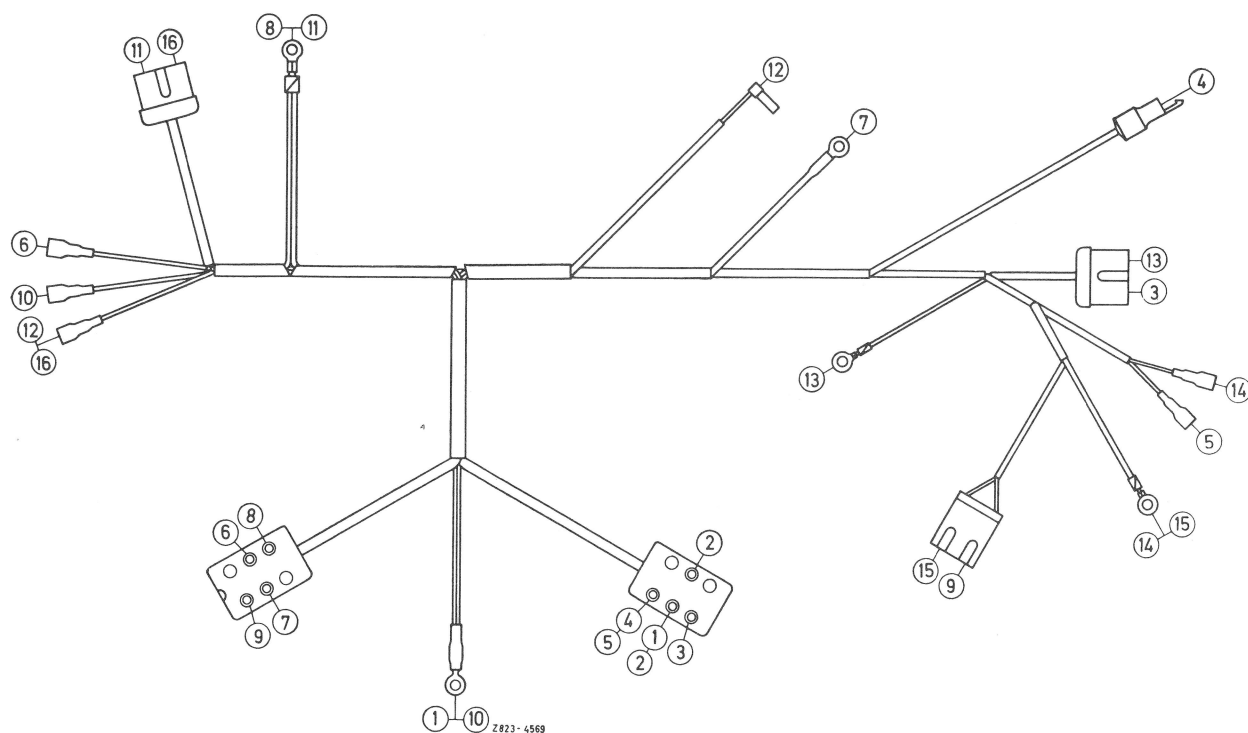

Fig. 4
3. A functional layout and color coding of supplementary harness for air-conditioning and supplementary fan for all vehicles except USA vehicles (electrical lines for air-conditioning system and supplementary fan are already contained in main harness) are shown in Fig. 4.